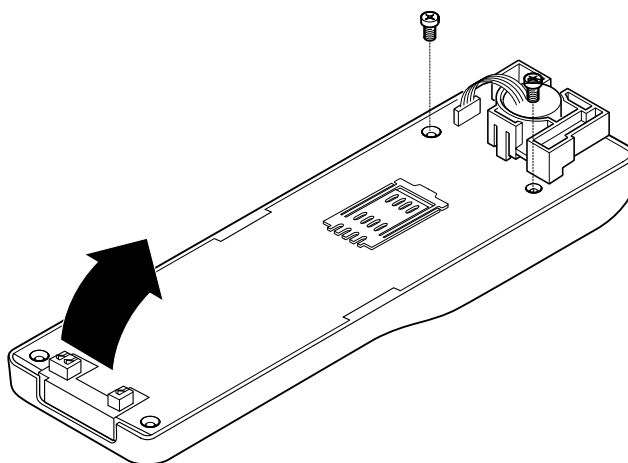

Figure 3: C assembly removal
3. Figure 3 Remove the C assembly 2 screws